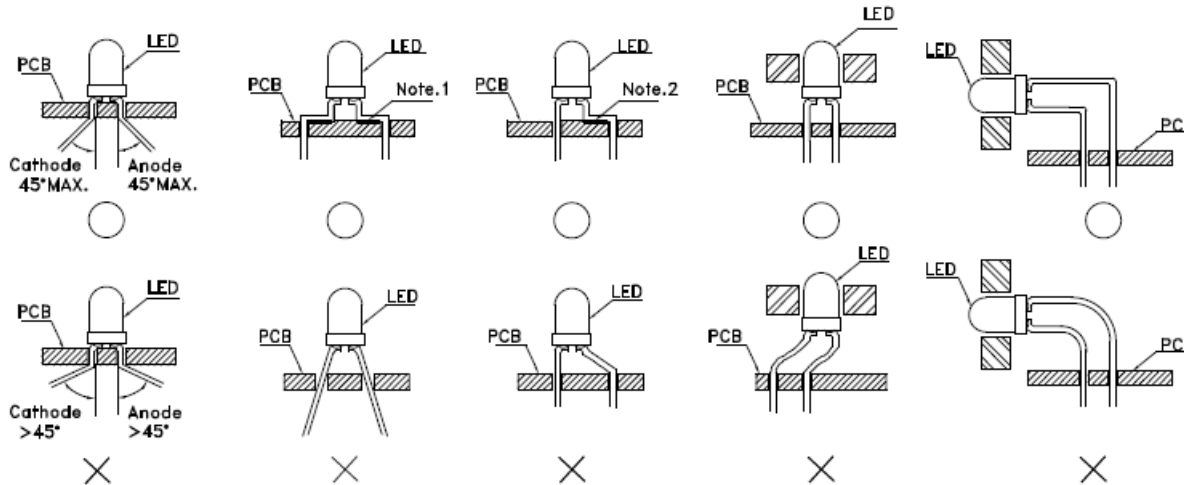

Figure 1
- The lead pitch of the LED must match the pitch of the mounting holes on the PCB during component placement. Lead-forming may be required to insure the lead pitch matches the hole pitch. Refer to the figure below for proper lead forming procedures.(Fig.1)